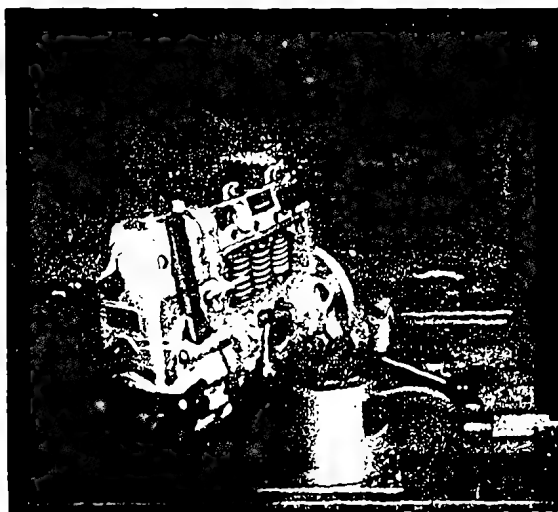

Fig. 3 Pump and governor fitted to vise
Fit injection pump together with its governor to swivelling vise EP 8498 (Fig. 3). On PES... A pumps, use angle clamping bracket EF 8498/30. Unscrew stop or idling stop screw (87... 89) and auxiliary idling spring (92... 96). Remove hex. bolts (144) complete with spring washers (145) and lift off end-cover (142). Collect oil running out in work bench tray or suitable container. Carefully release gasket (143).